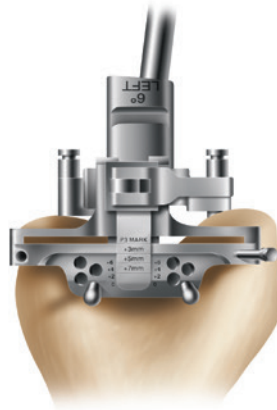

Figure 8
- 1 Using non-headed pins, pin the distal femoral cutting block to the anterior femur using the holes marked '0'. Once adequate distal femoral resection is noted, an additional headed or non-headed pin should be placed obliquely to provide additional stability (Figure 8).